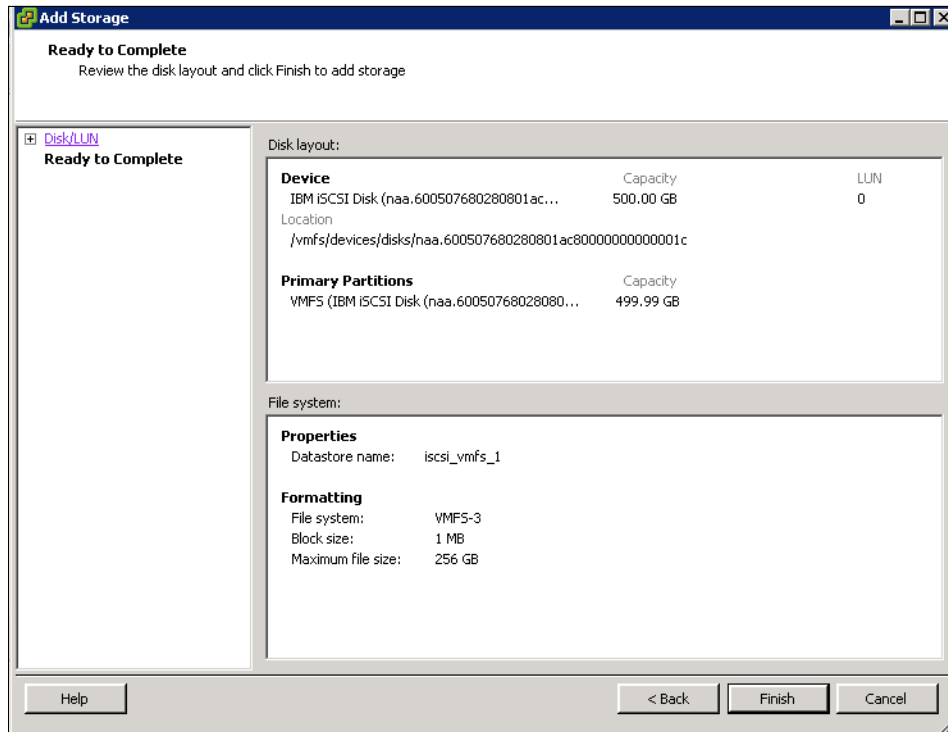

Figure 12-60 Finish the wizard
12. Review your selections and click **Finish** (Figure 12-60).